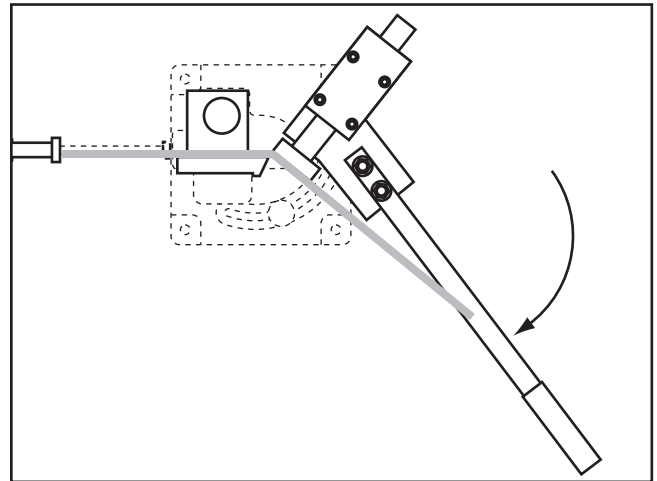

Figure 14. Bending workpiece.
- Use the handle to bend the workpiece to the desired angle (**Figure 14**).